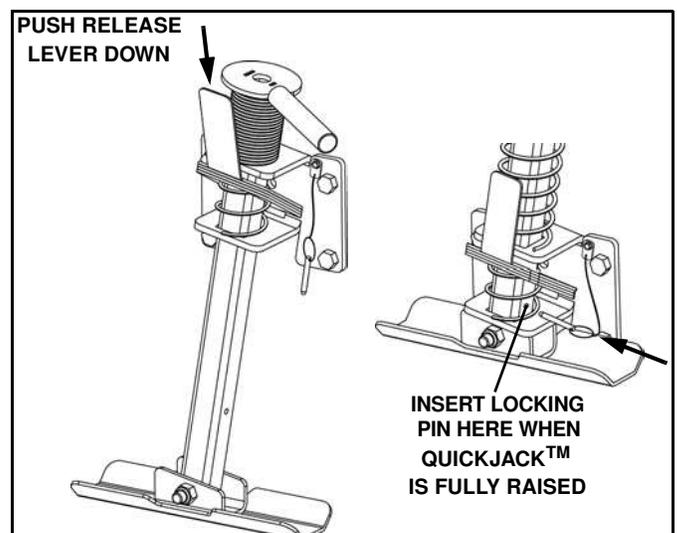

Figure 1-28
5. Raise QuickJack™ foot by pushing down on its release lever. Insert the locking pin in the QuickJack™ tube to prevent the jack from dropping during transport or plowing operations. (See Figure 1-28).
6. Release the foot, insert the foot locking pin (see Figure 1-28) and connect the lighting harness.